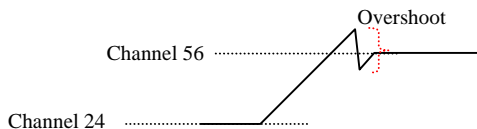

Fig 11.1
- 11) The Loop filter comprises mainly of **U200 / Q201 / Q202** and **C205** and it's main function is to 'smooth' out any overshoots when the channel is changed, see Fig 11.1. If this overshoot were fed to the TX VCO the resulting burst would not meet the world standards for GSM with respect to bandwidth, see Fig 11.2.